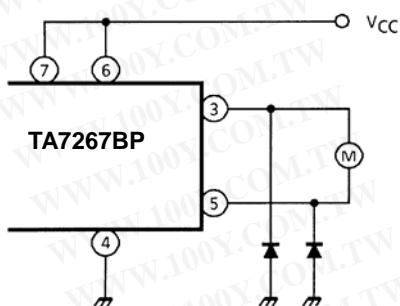

Figure 4
(3) Additional diode
- i) If the braking operation is so loose, connect a additional diode between each output to GND. (See Figure 4)